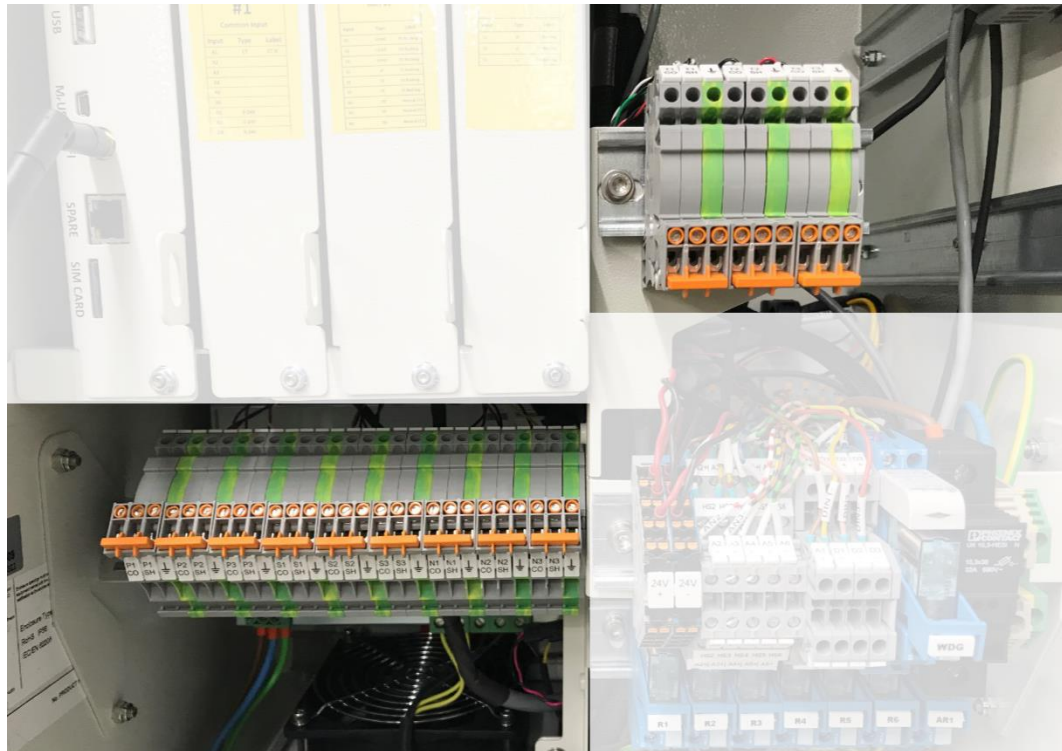
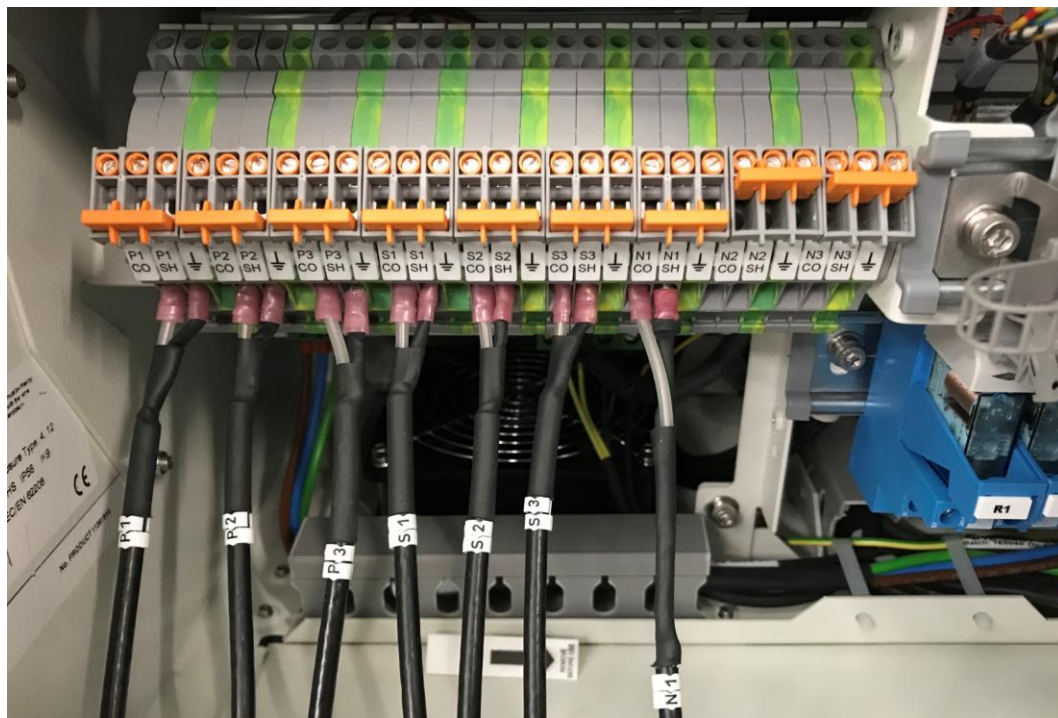
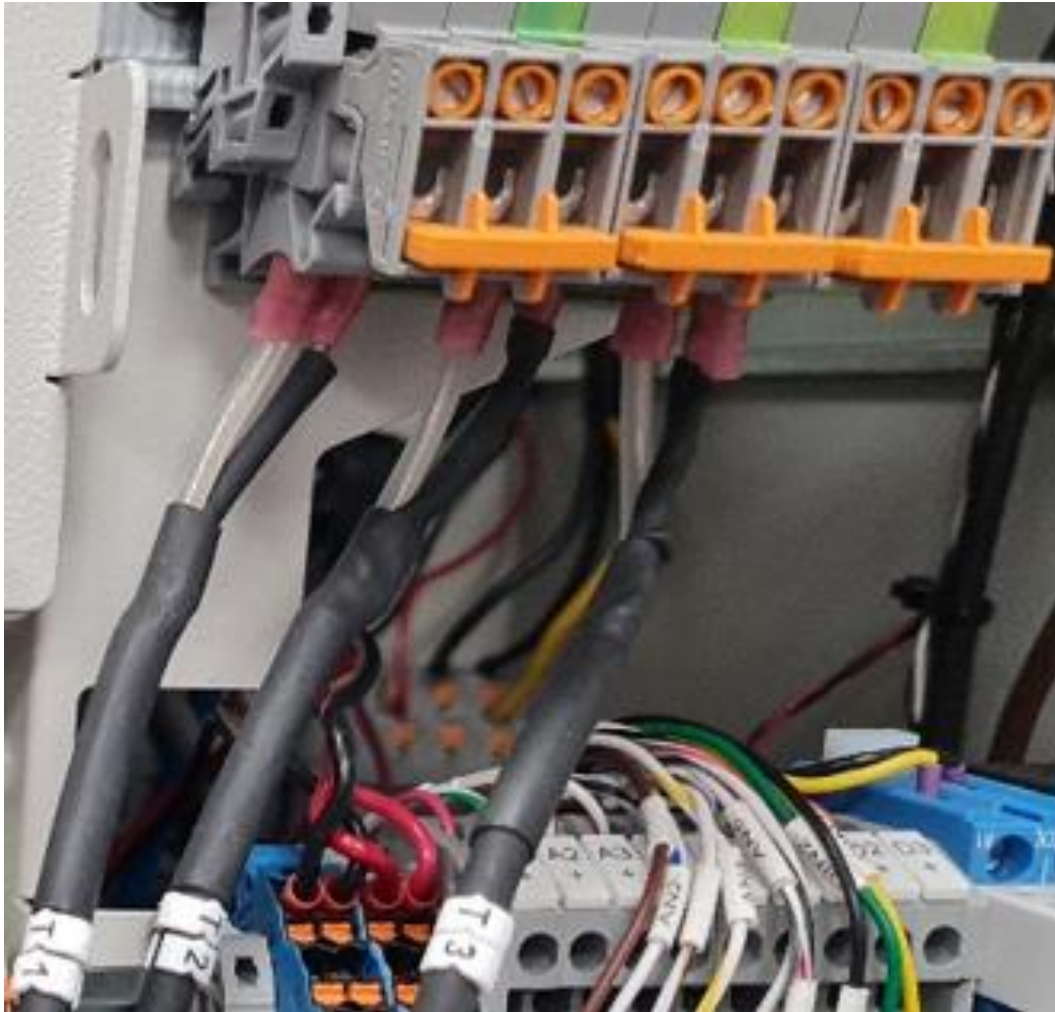

Figure 11-17: Bushing adaptor & Neutral CT connections (Set 1 & 2 - bottom left, Set 3 top right)
Figure 11-21: Phase Inputs – Set 1 (left), Set 2 (middle) & Neutral CT (right)
Figure 11-22: Phase Inputs - Set 3 (above)
An overview of Set 1, Set 2 & Set 3 Bushing Adaptor & Neutral CT connections are shown in Figure 11-17 to Figure 11-22.
Figure 11-21 and Figure 11-22 show the bushing adaptor cable runs at the connection points in the product cabinet. For each input, the coaxial central wire is connected to the core (CO) on the left and the shield (SH) on the right, as shown in Figure 11-21.
If the product is configured to support nine bushings in total, the Set 3 (tertiary) cables are routed through the cable clip (shown rightmost in Figure 11-21) and terminated as shown in Figure 11-22.